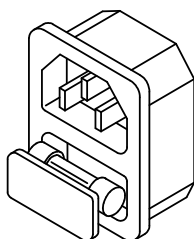

Fig 2-2 AC LINE RECEPTACLE
- 2.2.5 The line fuse is located below the AC line receptacle see Fig 2-2. With the power cord removed, use a small screwdriver to extract the fuse holder from under the AC socket.